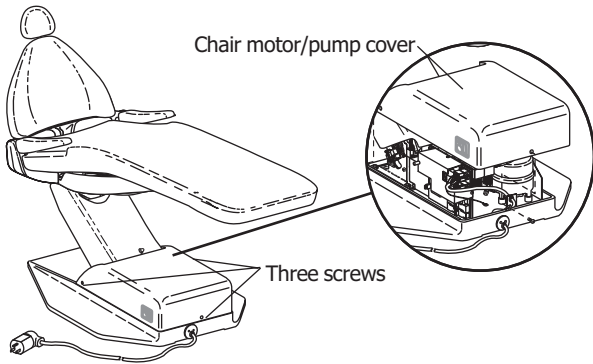

Figure 4
- Remove the chair motor / pump cover (see Figure 4) and, if present, the printed circuit board cover.